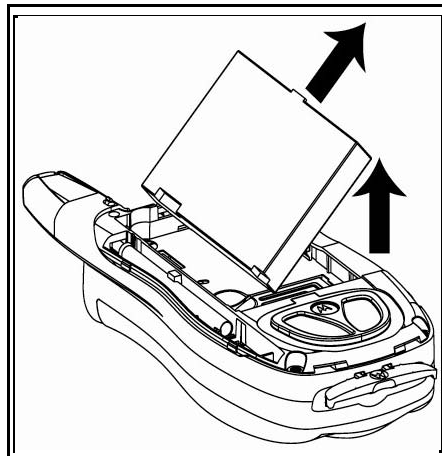

Figure 7-4.
2. Push battery towards the antenna side while lifting push side (see Figure 7-4).